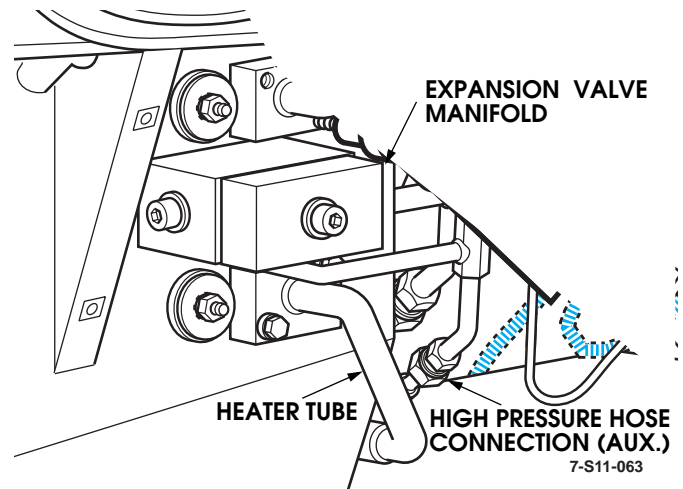

Figure 11-90: Auxiliary High-Pressure Hose Connection, Front
5. Using two wrenches to equalize support, remove auxiliary high-pressure hose from expansion valve manifold. Remove and discard O-ring (Figure 11-90).
3. Route other end of hose to expansion valve manifold (Figure 11-90).
3. Using two wrenches for equalized support, remove auxiliary low-pressure hose from low-pressure hose fitting. Remove and discard O-ring (Figure 11-90).
4. Lubricate and position O-ring and secure auxiliary low pressure hose to existing low pressure hose fitting. Using two wrenches for equalized support, tighten to 24-28 lb-ft (33-38 N•m) (Figure 11-90).